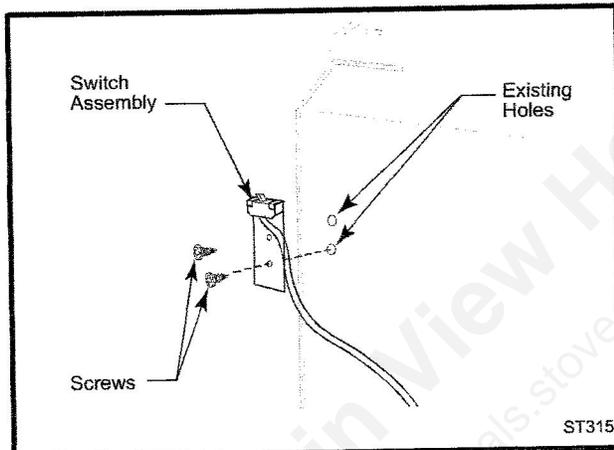

Fig. 56 Attach switch assembly to rear shroud.
1. Attach switch assembly to left rear side of stove shroud (when facing shroud) using two screws and existing holes in shroud. (Fig. 56)